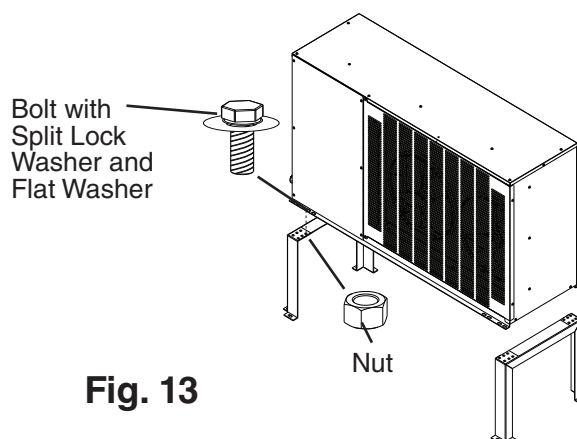

Fig. 13
- 1) Secure the legs to the remote condensing unit with the 8 bolts and nuts provided. See Fig. 13.